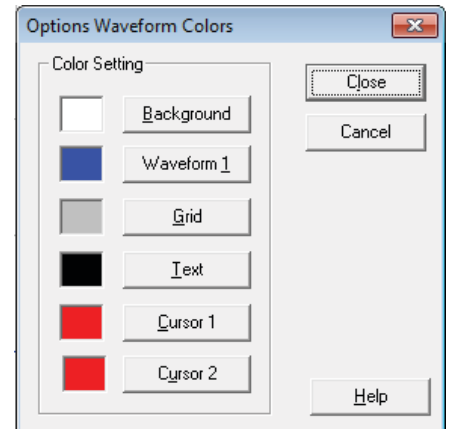

Figure 9
- This will open a sub-menu from which the colors for individual elements can be selected (e.g. green for waveform 1, blue for waveform 2). See figure 9